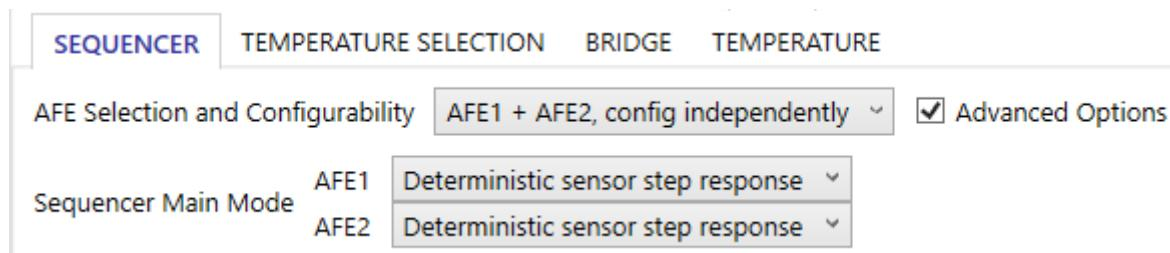

**Figure 46. Accelerated Measurements**
- Accelerated main measurement (see Figure 46): this measurement scheme is faster than the ‘Deterministic sensor step response’ which can lead to noticeable timing overhead due to analog frontend settling times. ‘Accelerated main measurement’ returns a measurement with 1 bit less effective resolution (setting the same physical resolution in both scenarios).